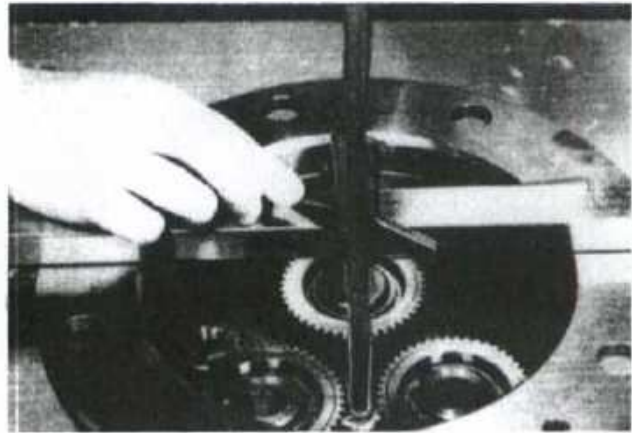
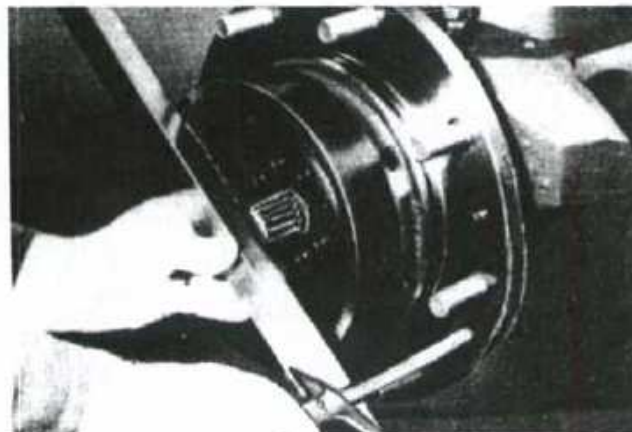
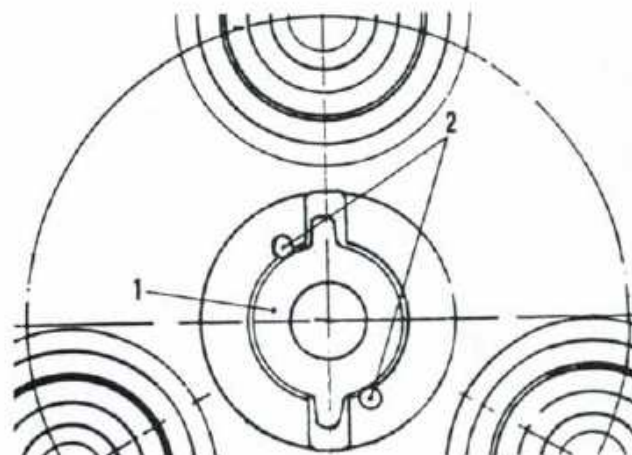

Fig. 12—Measure distance from planetary carrier flange to recess for end play shim.
Fig. 13—Measure distance from end of stub shaft (sun gear) to hub outer flange.
Fig. 14—With correct shim (1) installed in seat in planetary carrier, use a center punch to peen metal (2) to hold shim in place.
To determine correct thickness of axle shaft end play shim (14), proceed as follows: Refer to Fig. 12 and measure distance from planetary carrier flange to recess for end play shim. Record this measurement. Hold axle shaft and sun gear inward, refer to Fig. 13 and measure distance from end of stub shaft (sun gear) to hub outer flange. Subtract last measurement from first measurement to obtain full axle shaft end play. Select a shim which will provide end play of 0.012-0.024 inch (0.3-0.6 mm). Shims are available in thicknesses of 0.039, 0.059, 0.067, 0.079, 0.087 and 0.098 inch (1.0, 1.5, 1.7, 2.0, 2.2 and 2.5 mm). Apply Loctite stud lock to one side of selected shim and stick shim in place as shown in Fig. 14. Use a hammer and center punch to peen metal (2) to hold shim in place. Install planetary carrier (15—Fig. 11) over